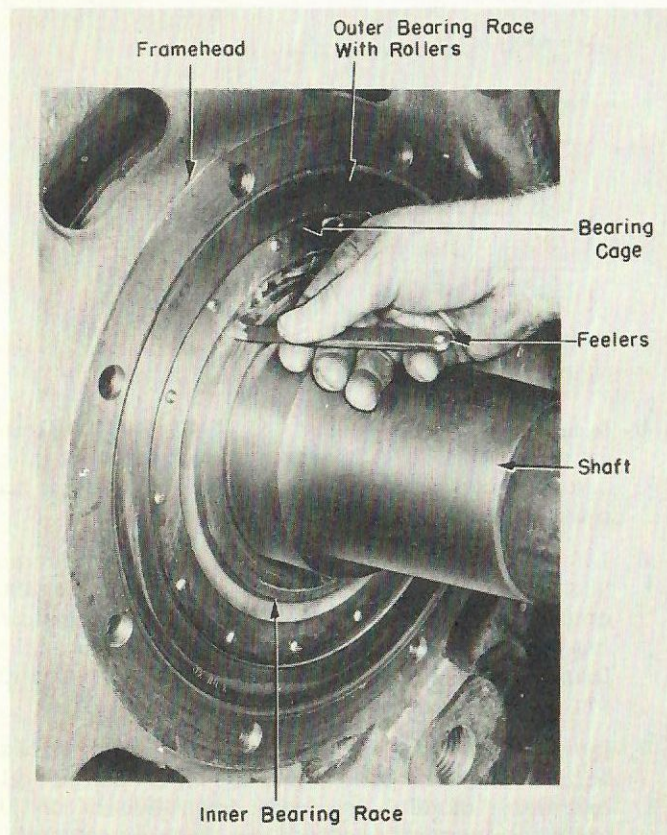

Fig. 29-10
rollers and inner race, using a feeler gage as shown in Fig. 29-10. Assembled clearance must be between 0.0015 and 0.0054 in.
16. Check radial clearance between pinion-end bearing rollers and bearing inner race, using a feeler gage. See Fig. 29-10. The assembled clearance must be between 0.0024 and 0.0069 in.